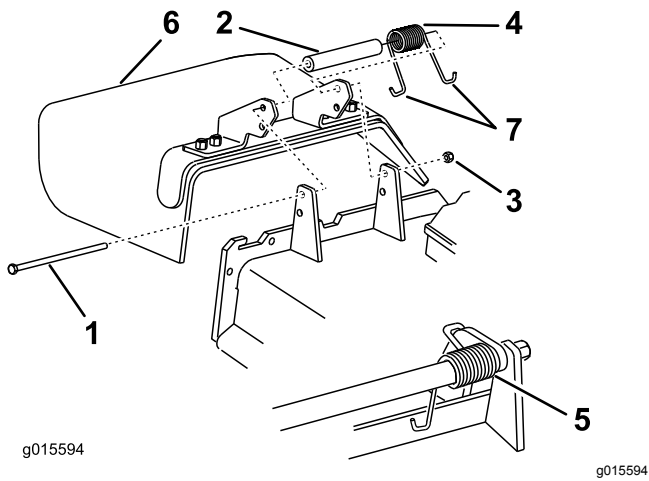

Figure 116
1. Remove the locknut, bolt, spring, and spacer holding the deflector to the pivot brackets (Figure 116).
2. Remove the damaged or worn grass deflector (Figure 116).
Note: Make sure that 1 J-hook end of the spring is installed behind the deck edge before installing the bolt as shown in Figure 116.
- Place 1 J-hook end of the spring around the grass deflector (Figure 116).